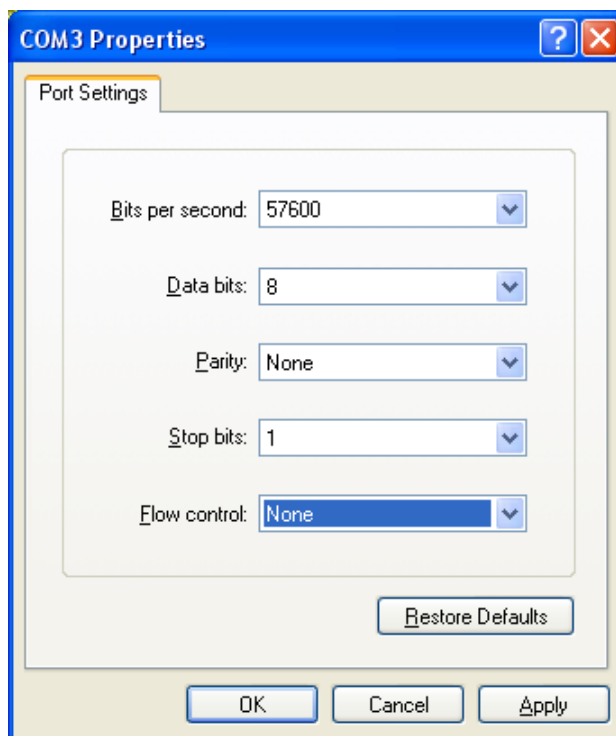

Figure 5-3 • COM3 Properties
3. Enter the following for the properties (Figure 5-3):